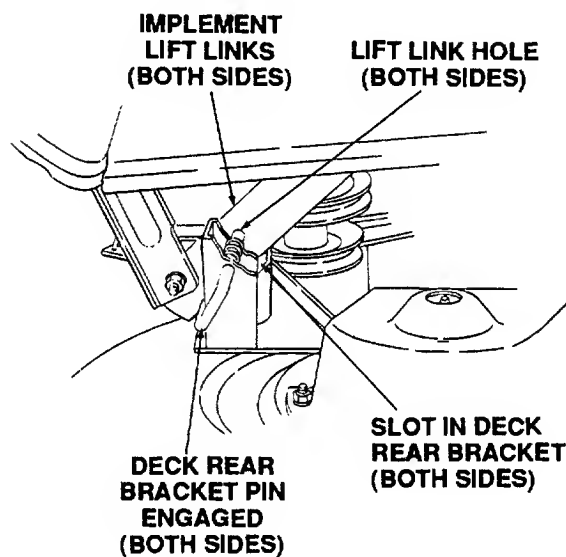

Figure 53
10. Carefully engage the tractor implement lift links (left and right) into the deck rear bracket slots (left and right) as the tractor implement lift handle is lowered to its lowest setting (Refer to Figure 53).
11. Pull the deck rear bracket pins outward, turn upward so the open ends of the pins are outside the brackets and release. Adjust each pin until it passes through the hole on the inside of the bracket and the hole in the lift link (Refer to Figure 53).